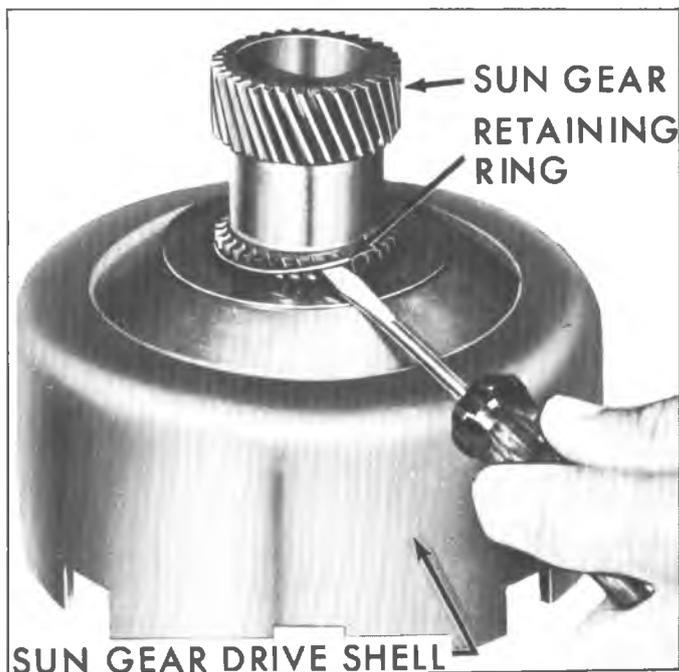

Fig. 86M--Removing Sun Gear Drive Shell Rear Retaining Ring
1. Remove sun gear to sun gear drive shell rear retaining ring (fig. 86M).